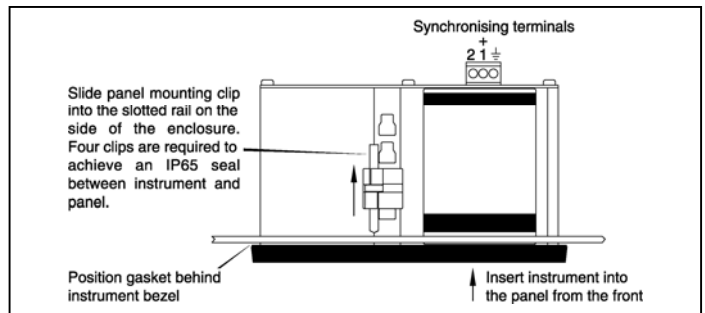

Fig 6 Installation and terminal connections
- Fix panel mounting clips to opposite sides of the instrument and tighten until the instrument is secure as shown in Fig 6. Four clips are required to achieve an IP65 seal between the instrument enclosure and the panel.